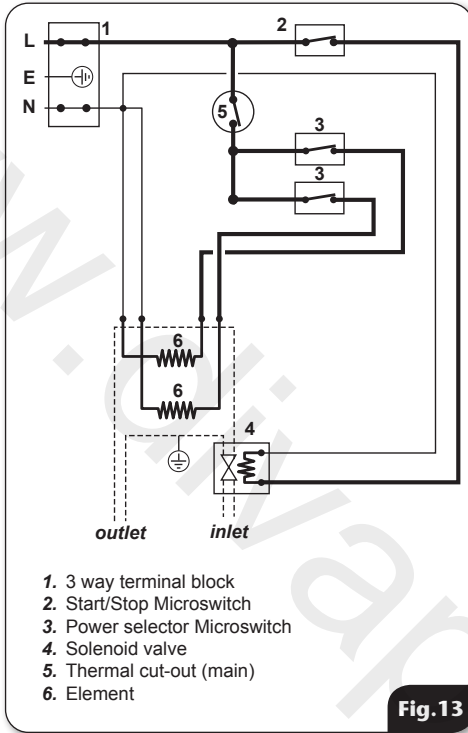

Fig. 13
- Fig. 13 shows a schematic wiring diagram.